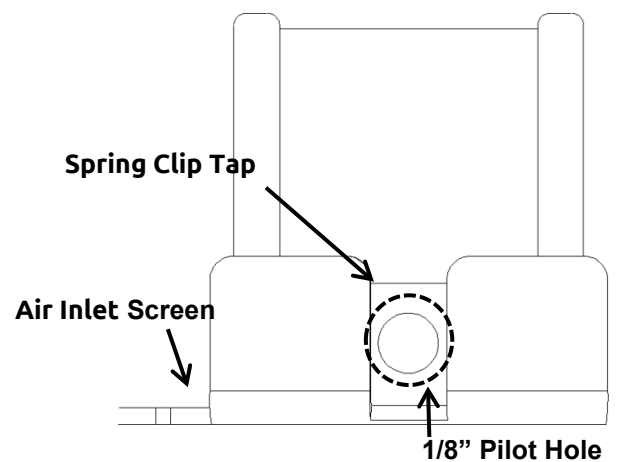

Fig. 3
6. Drill 1/8" pilot holes using supplied 1/8 HSS drill bit and install the screen with supplied #6 screws. **Apply Loctite Thread Locker to the screws (Fig. 3).**